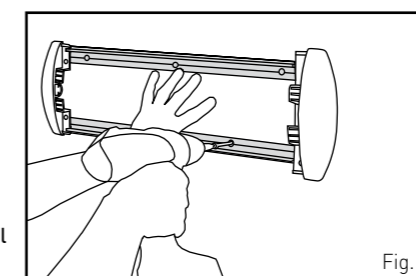

Fig. 3
- Measure the length between each end piece or angle piece and then cut the rail using a mitre saw. Drill through the rail along the grooves, starting at 20 mm from the edge and then spacing the holes at no more than 750 mm apart. Place the rails over the centrelines on the wall and then mark each hole on the wall. Drill into the wall, fit the plugs and then fix the rails onto the wall (see Fig. 3).